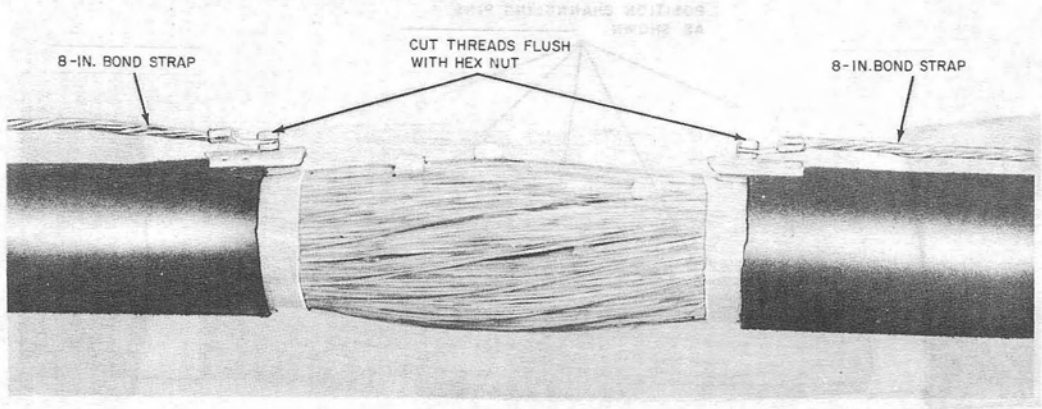

Fig. 21—Bond Clamps and Bond Straps Installed
- (i) Install two 8-inch bond straps, using two D bond clamps (Fig. 21). Install the D bond clamps as outlined in Section 081-852-119, **except do not split the polyethylene sheath.**
- (j) With a pair of cutting pliers, cut the bolt threads on the bond clamps flush with the hex nut (Fig. 21).